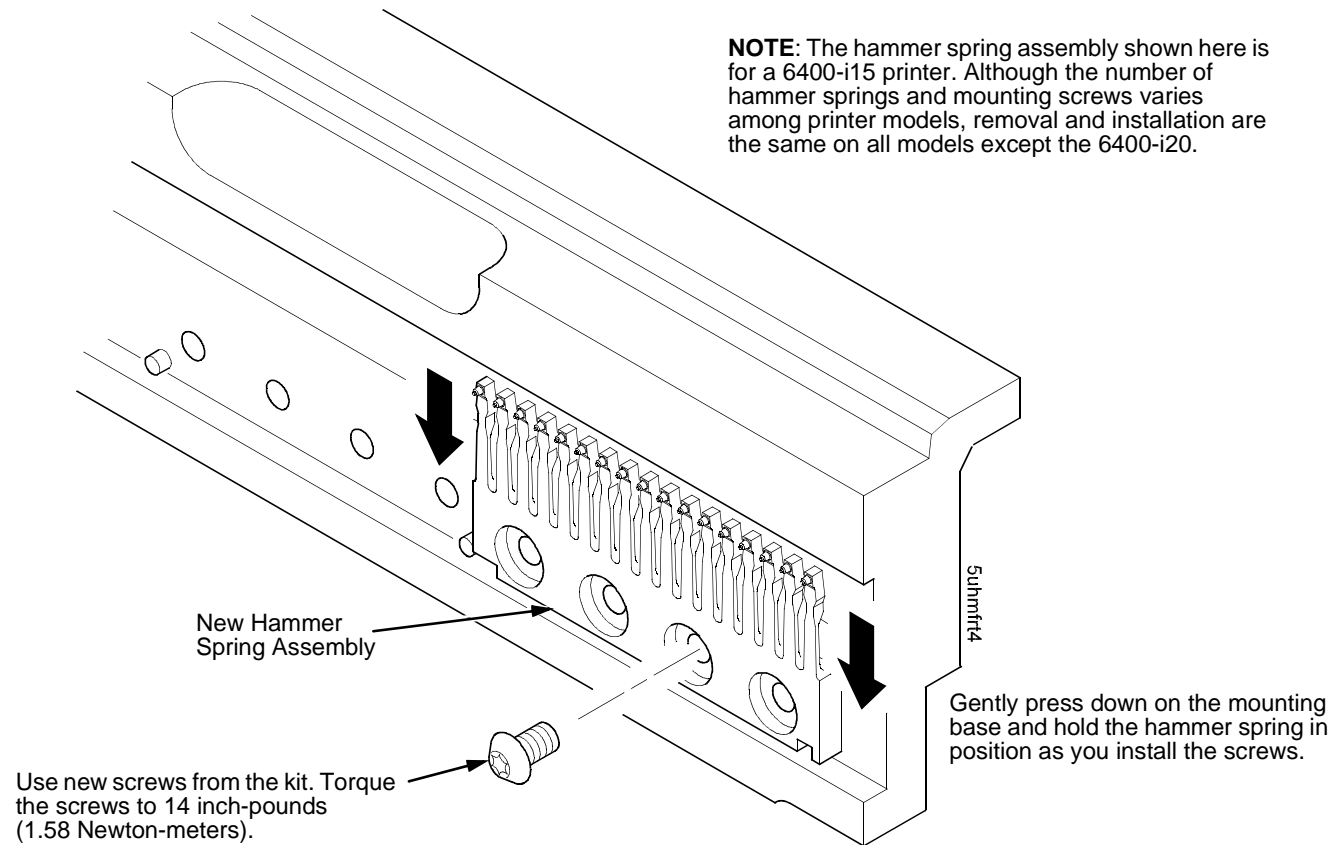

Figure 19. This figure shows how to install a hammer spring assembly onto a single hammer bank.
3. Handling the hammer spring assembly by the mounting base only, carefully position it on the hammer bank mounting pins. then gently press the mounting base down against the alignment pins. (See Figure 19, page 369.)
4. Continue pressing down on the mounting base of the the new hammer spring assembly as you install the mounting screws from the replacement kit. Using a Torx T-10 bit adapter, torque each screw to 14 inch-pounds (1.58 N•m). Tighten the center screw(s) first. (See Figure 19, page 369.)